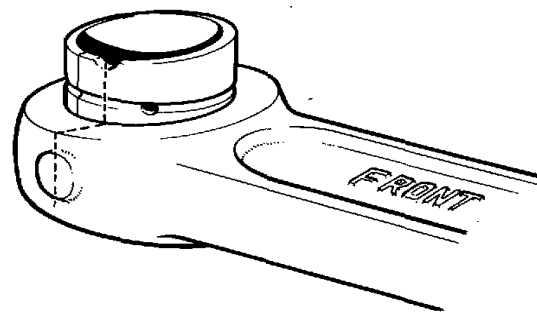

Fig. 59. Connecting rod bushing, earlier type, 70 series
**Note,** a new connecting rod bushing with only one oil hole has been introduced on the 70 series. (The earlier bushing (fig. 59) had three holes and an external turned groove.)